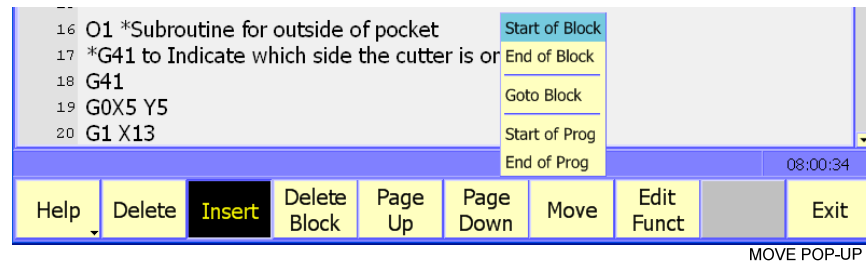

Figure 6-3, Move (F7) Pop-up Menu
Press **Move (F7)** to display the Move pop-up menu. Refer to **Figure 6-3** and **Table 6-2**.
1. In Edit Mode, place the cursor on the desired block of the program. Press **Move (F7)** to display the pop-up menu. Refer to **Figure 6-3, Move (F7) Pop-up Menu**.
1. In Edit Mode, press **Move (F7)** to display the pop-up menu. Refer to **Figure 6-3, Move (F7) Pop-up Menu**.